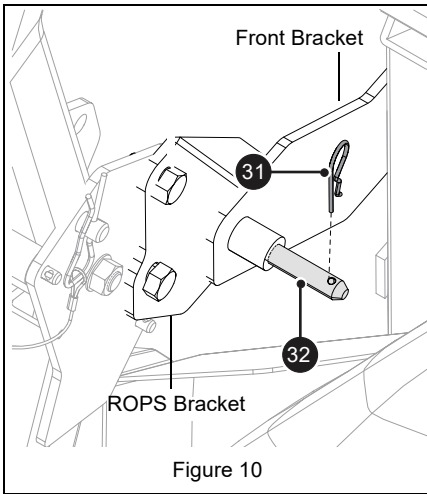

Figure 10
- Using two people or a hoist, position post ends into mount brackets and rotate bagger assembly toward ROPS. See Figures 10 and 11.
- Insert bent pins (item 32) through ROPS and front brackets. Secure with cotter pins (item 31). Ensure that brackets are properly aligned: